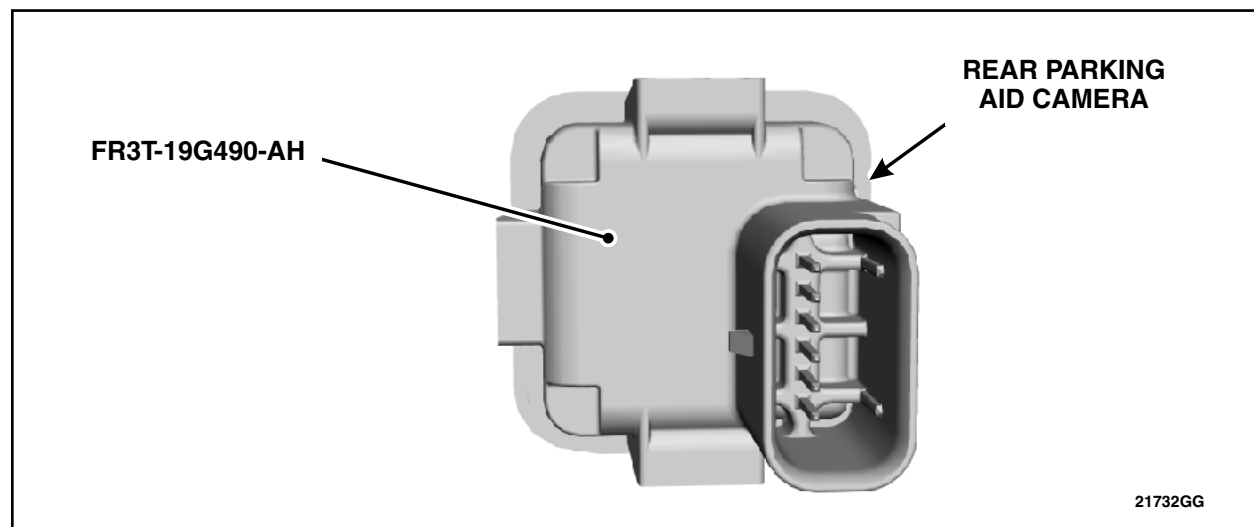

FIGURE 1
3. With the rear parking aid camera out of the vehicle, inspect the engineering part number on the back of the camera. See Figure 1.